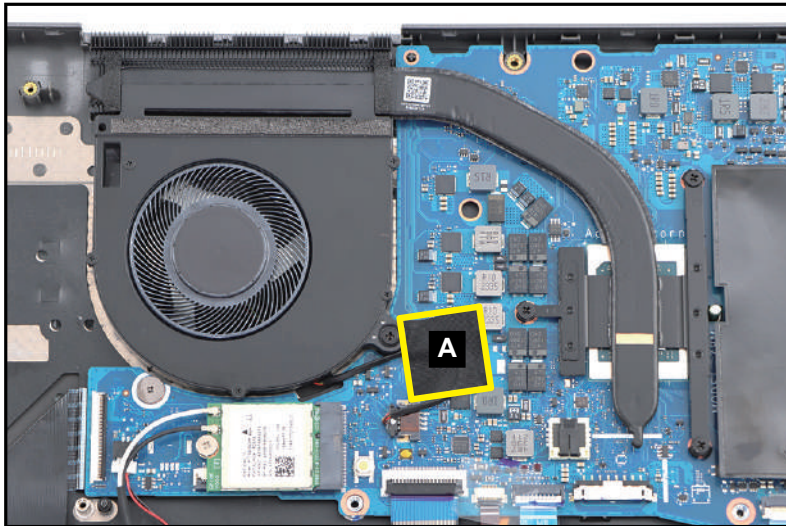

Figure 3-33. Thermal Module Removal
1. Detach the tape (A) securing the fan cable connection (Figure 3-33).